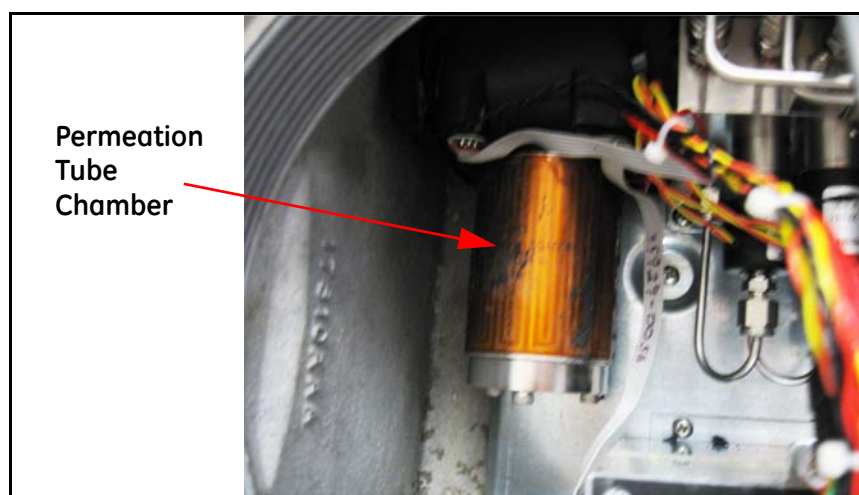

Figure 81: Removing Insulation
5. Use one hand to hold the pre-heating manifold and use the other hand to gently remove the insulation around the permeation tube chamber (Figure 81).